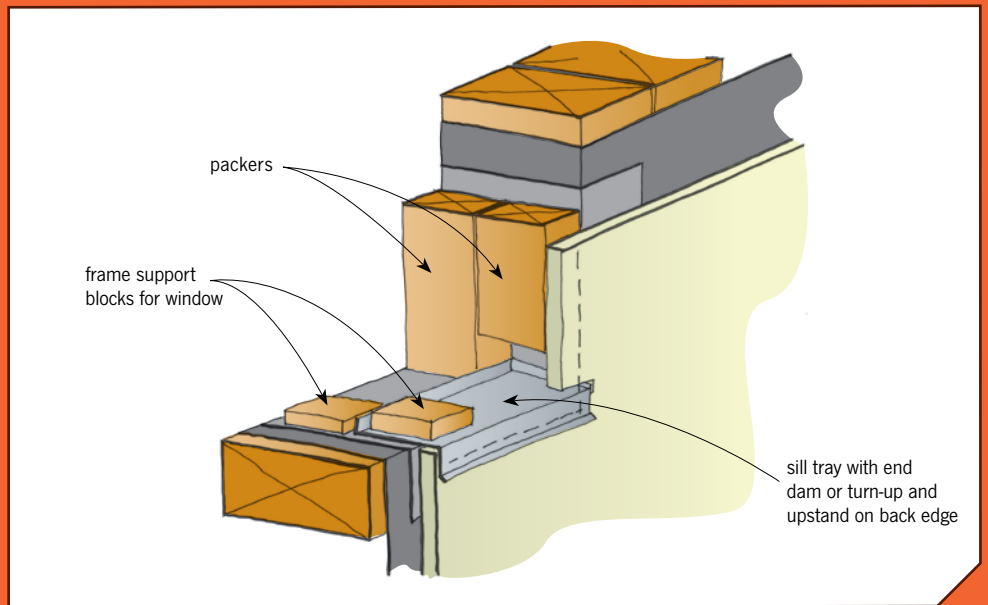

Figure 1. Sill detail for aluminium window with direct-fixed cladding.
- the window is supported by frame support blocks sitting on the flashing and packers under the timber reveal (Figure 1)